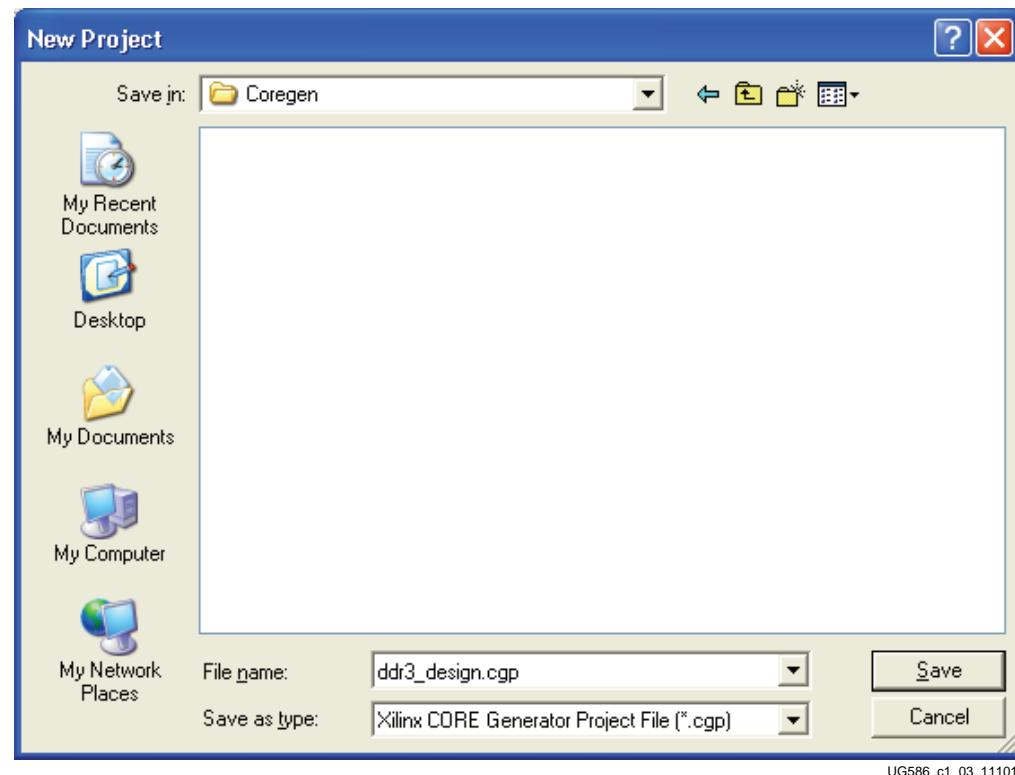

Figure 2-3: New Project Menu
3. Enter a project name and location. Click **Save** (Figure 2-3).